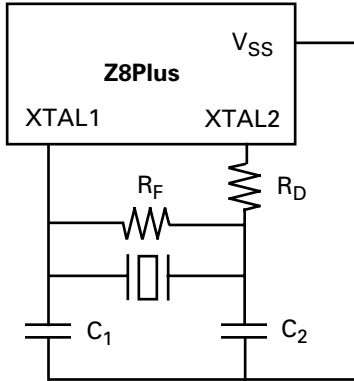
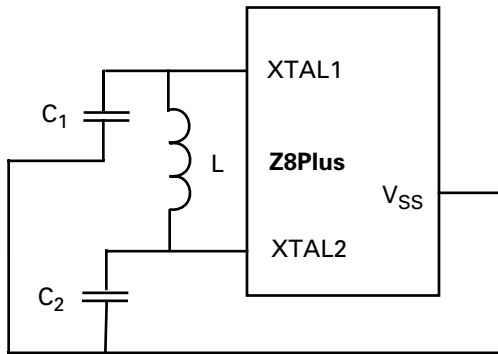
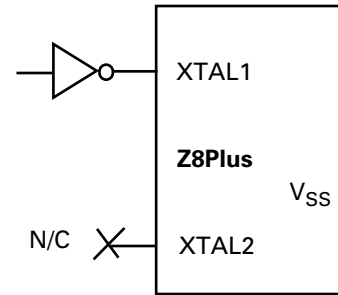

Figure 16. Crystal/Ceramic Resonator Oscillator
Figure 17. LC Clock
Figure 18. External Clock
Crystals and ceramic resonators (Figure 16) should exhibit the following characteristics to ensure proper oscillation:
Depending on the operation frequency, the oscillator may require additional capacitors, C_1 and C_2 , as illustrated in Figure 16 and Figure 17. The capacitance values are dependent on the manufacturer's crystal specifications.
Figure 16, Figure 17, and Figure 18 recommend that the load capacitor ground trace connect directly to the V_{SS} (GND) pin of the Z8Plus. This requirement assures that no system noise is injected into the Z8Plus clock. This trace should not be shared with any other components except at the V_{SS} pin of the Z8Plus.
The Z8Plus oscillator can use an inductor capacitor oscillator (LC) network to generate an XTAL clock (Figure 17).